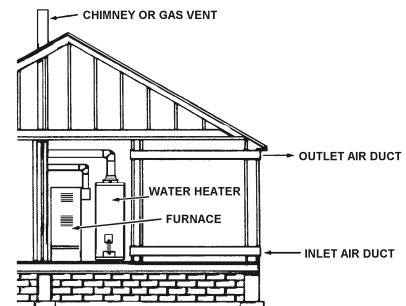

FIGURE 8.
3. When communicating with the outdoors through horizontal ducts, each opening shall have a minimum free area of 1 square inch per 2,000 Btu per hour (11 cm2/kW) of total input rating of all equipment in the enclosure, see Figure 8.
4. When ducts are used, they shall be of the same cross-sectional area as the free area of the openings to which they connect. The minimum short side dimension of rectangular air ducts shall not be less than 3" (76.2 mm), see Figure 8.